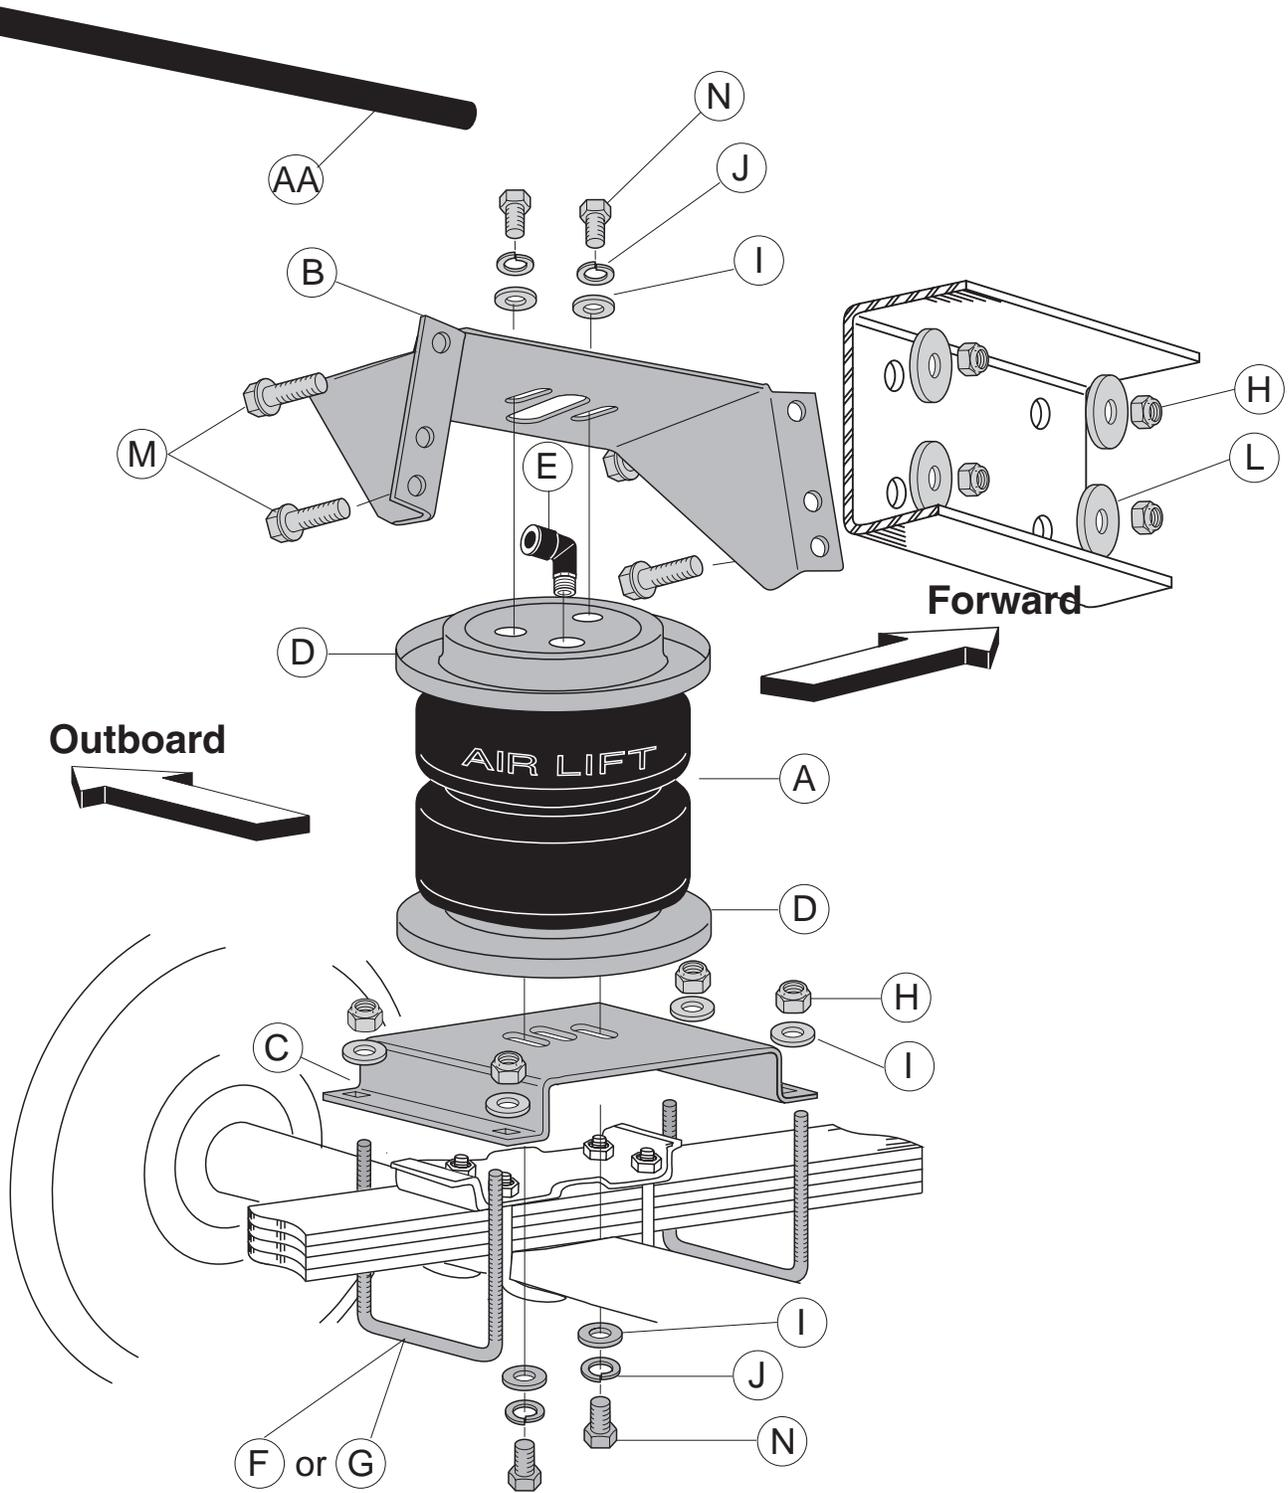

Figure 1
* Not shown in Figure 1
1. Set a roll plate (D) on both ends of the air spring (A). The radiused (rounded) edge of the roll plate will be towards the air spring so that the air spring is seated in both roll plates (Figure 1).
2. **Install a 90° swivel air fitting (E) finger tight plus 1 1/2" turns (Figure 1). Do not overtighten.**
3. Place the upper bracket (B) onto the top of the bellows and roll plate with the legs facing down.
4. Set the air spring on the lower bracket (C) aligning the two holes in the base of the air spring with the two outer slots in the top of the lower bracket (Figure 1).
5. Loosely attach the upper bracket to the assembly using flat washers (I), lock washers (J), and hex head bolts (N). Remember that the legs face down (Figure 1).
6. Loosely attach the lower bracket to the assembly using flat washers (I), lock washers (J), and hex head bolts (N). See Figure 1.
1. If the spacer is not used, attach the lower bracket securely using the provided U-Bolts (G), flat washers (I), and lock nuts (H). Torque to 16 ft/lbs. See Figures 1 and 8.